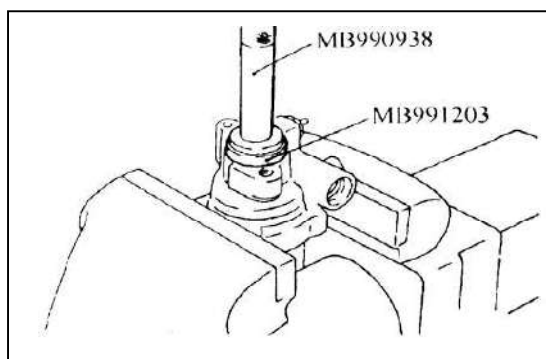

Fig 17-53
(2) OIL SEAL INSTALLATION(See fig 17-53)